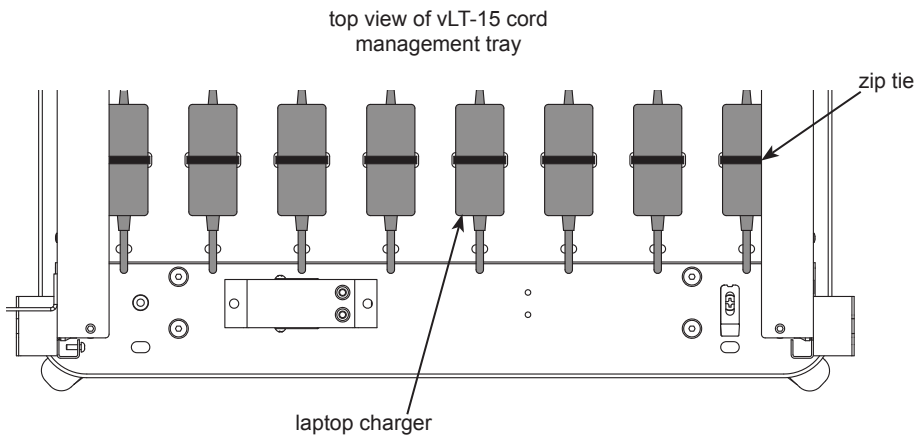

Figure 3
2. Attach the laptop chargers to the cord management trays using the included zip ties and cord management slots. **Figure 3 and 4.** (Excess cord can be bundled with the charger if necessary.)